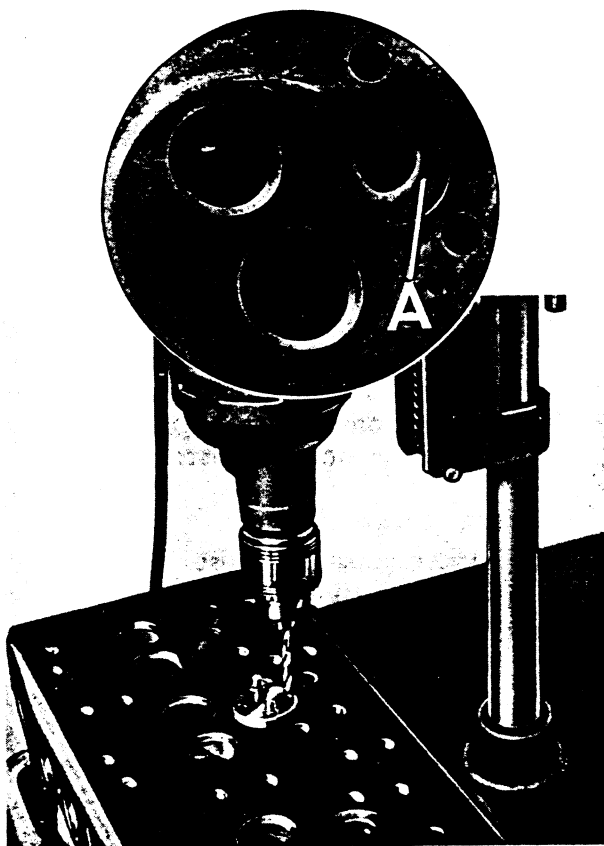

FIG. 118.
Examine the orifice in the lower half of all pre-combustion chambers, those showing signs of erosion or burning, as shown A in inset Fig. 118, must be renewed.
2. With Jig held firmly in position drill through the holes into the pre-combustion chamber, using 3/16" (4.77 mm.) diameter drill, locating Jig by inserting two of the replacement pegs FT.136/2, into the first two drillings, see Fig. 118, otherwise difficulty will be experienced in fitting the Remover.